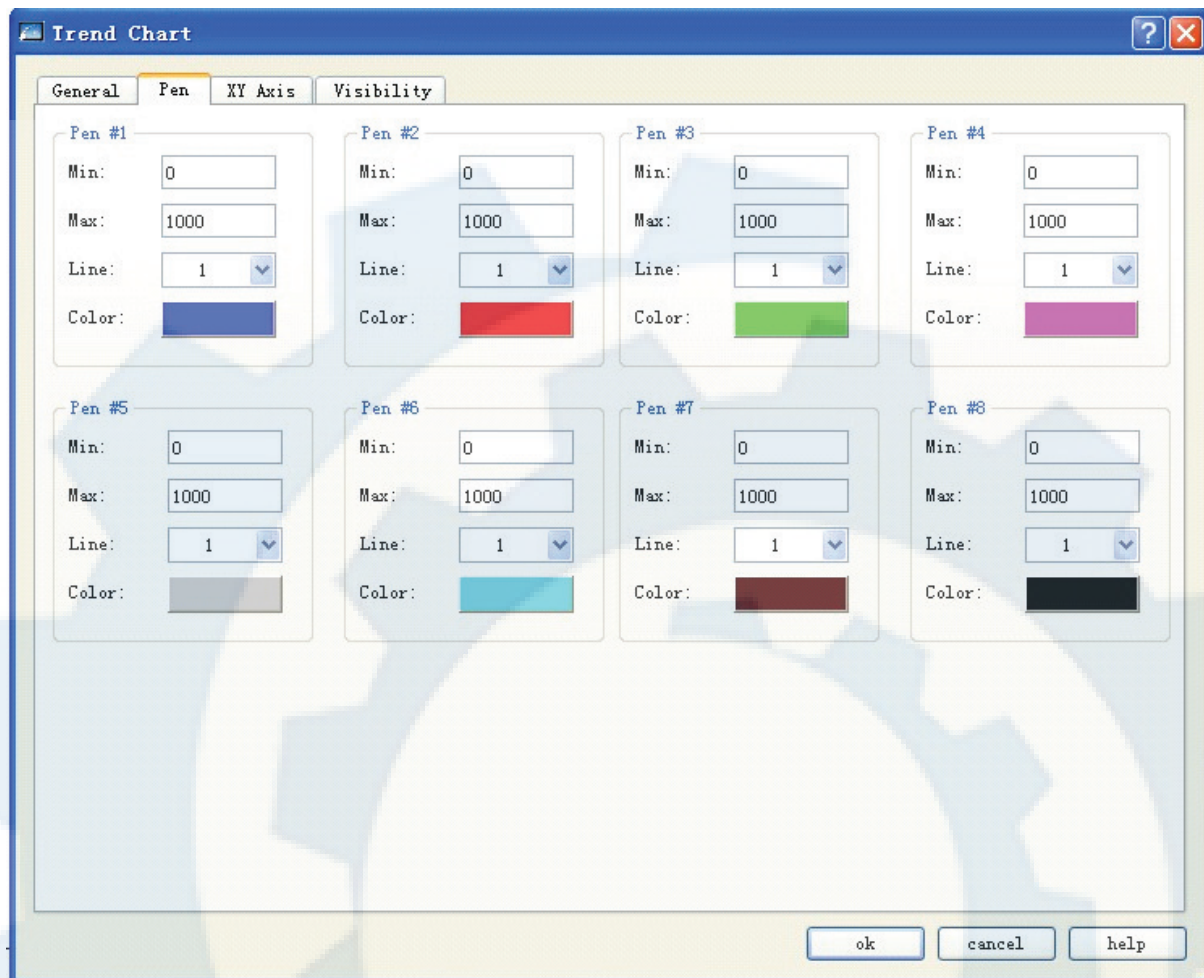

Figure 4-56: Pen tab of Trend Chart
2. Pen tab of Trend Chart. See Figure 4-56.